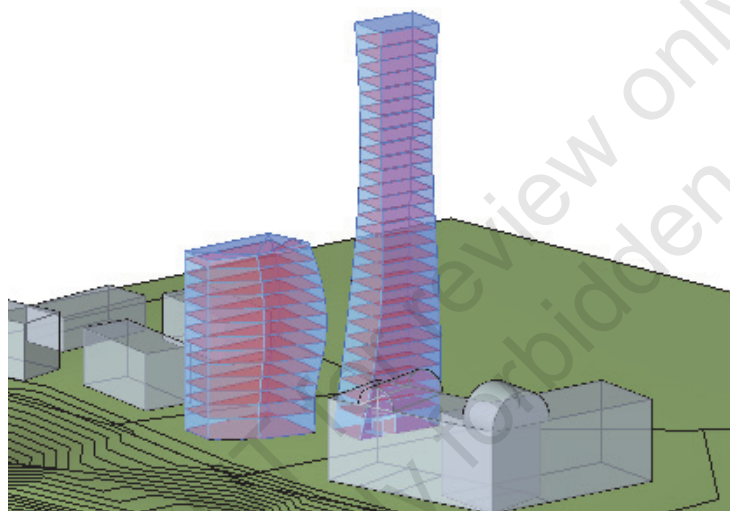

Figure 1–95
4. Select all of the levels in the Mass Floors dialog box and click **OK**. The new mass floors display as shown in Figure 1–95. Hint: Use <Shift> to select all the levels, then check one check box to check them all.